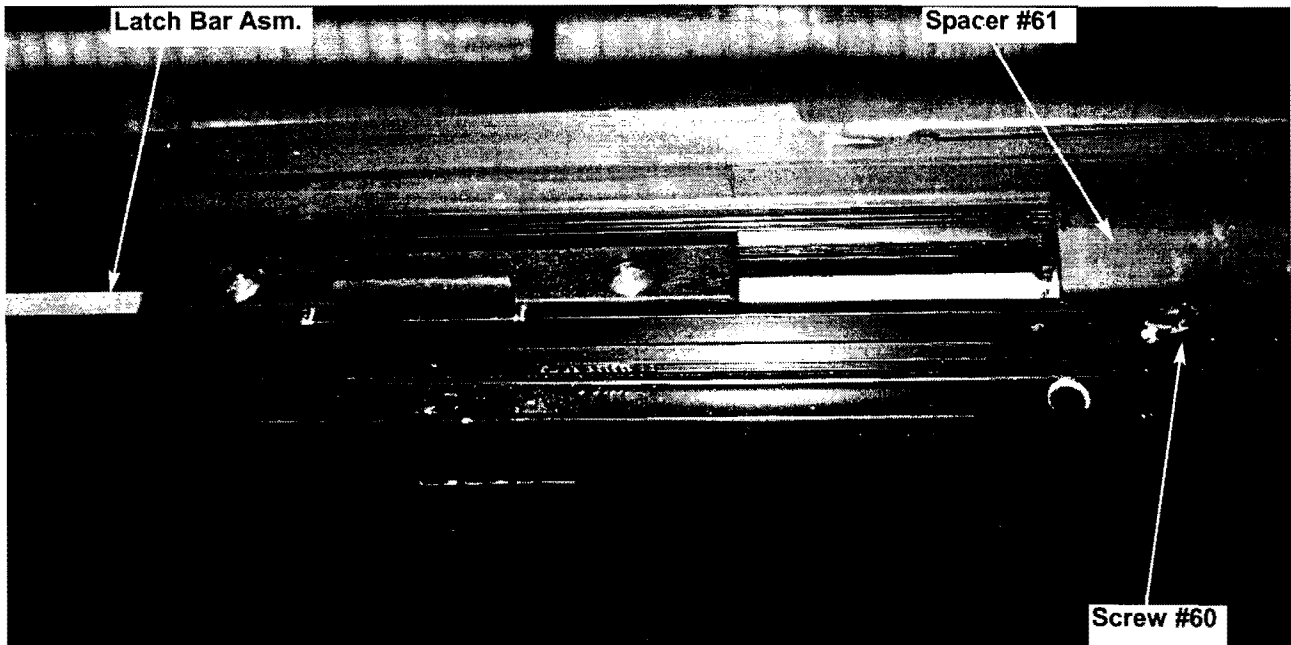

FIGURE 2
- 2.1 The Latch Bar assembly should be exposed across the bottom of the opened inner window frame. **Figure 2**
- 2.3 Remove screws (#60), which secure Spacers (#61), which in turn straddle the Lock Bar assembly. (**Figure 2**) It is now possible to remove the Latch Bar assembly from the inner window frame. After the Lock Bar assembly is removed, replace the 2 or 3 Spacers (#61) and screws that secure them. They are needed to center the Inner Frame in the Back Frame in the closed position. **Figure 2**